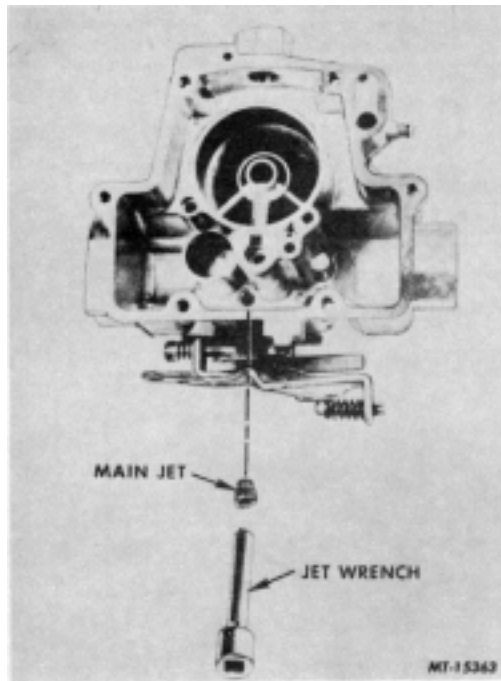

FIG. 16. Remove or Install Main Jet
3. Remove the main jet with a jet wrench. A 3/8" wide square point screwdriver may be used (Figure 16).